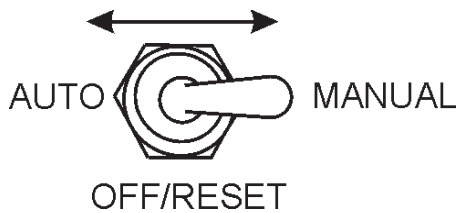

Figure 50. Auto-Off/Reset-Manual Switch
7. Place the **Auto-Off/Reset-Manual** switch in the **"MANUAL"** position to start the engine (Figure 50). Once the engine starts, let the engine run for 1-2 minutes. Listen for any abnormal noises.